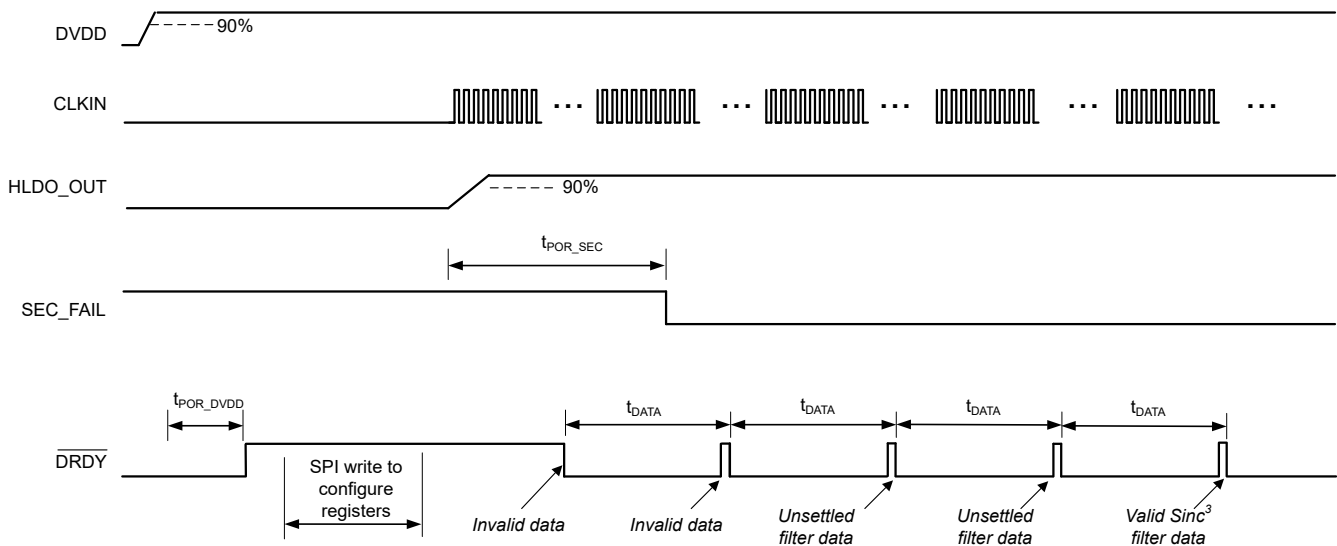
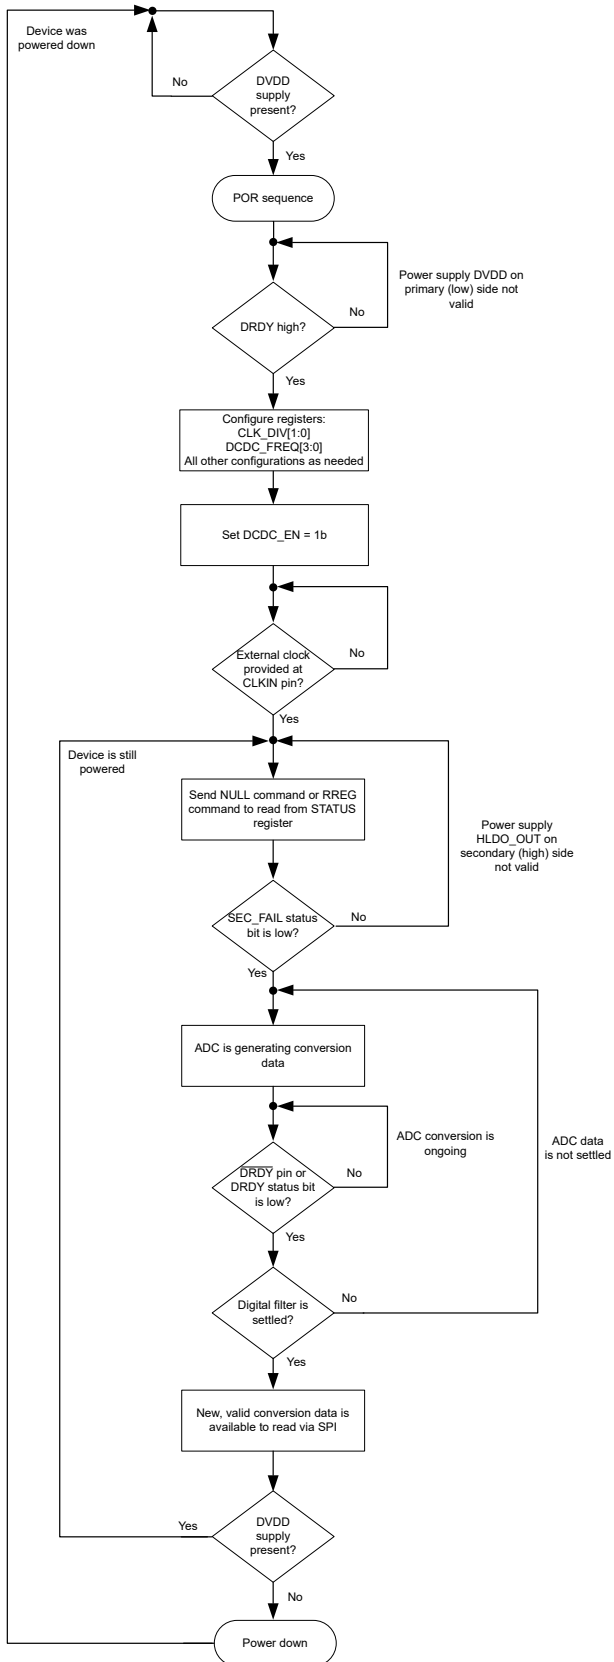

Figure 8-13. Start-Up Behavior at Power-Up and Settling Times, OSR = 1024
図 8-14. Flow Diagram for Start-Up Procedure at Power-Up
A recommended procedure for powering up the AMC131M01 is described in this section. Figure 8-13 depicts a timing diagram for the device behavior when this recommended sequence is used. Figure 8-14 provides a flow diagram that displays the recommended sequence in a graphical form.
- The high-to-low transition of $\overline{\text{DRDY}}$ indicates that new conversion data are available. As given in Figure 8-13, ADC data are only valid if the SEC_FAIL reads 0b during the conversion period. The first two conversion results shown in Figure 8-13, represent invalid data.
- When the ADC generates valid data, the digital filter must settle, as described in the SINC³ and SINC³ + SINC¹ Filter section. Two subsequent conversion results illustrated in Figure 8-13 are unsettled (assuming OSR equals 1024), and the last conversion result shown provides valid and settled data.
In Figure 8-13, $t_{\text{POR_SEC}}$ is the time from enabling the DC/DC converter to the first falling edge of the SEC_FAIL bit, which indicates that the secondary power supply at the HLDO_OUT pin is stable. $t_{\text{POR_DVDD}}$ is the time from DVDD supply at 90% to $\overline{\text{DRDY}}$ first rising edge.